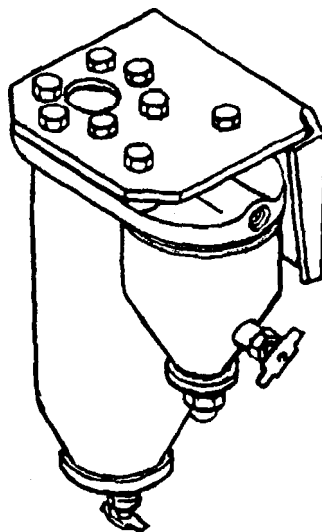

Figure 3-4. Inspecting and Servicing Fuel Strainer and Filter Housing
- a. Inspection. Inspect fuel filter and strainer assembly for insecure mounting, cracks, dents, leaks, loose fuel lines, and other discrepancies (Figure 3-4).